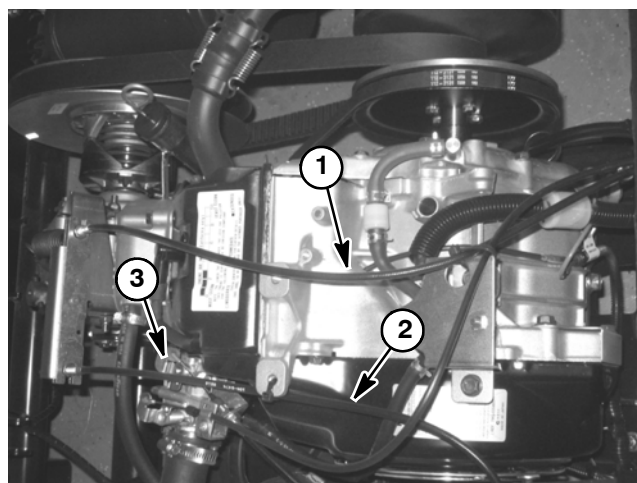

Figure 2
- A. The carburetor throttle lever should be to the fully open position without contacting the stop (Fig. 2).